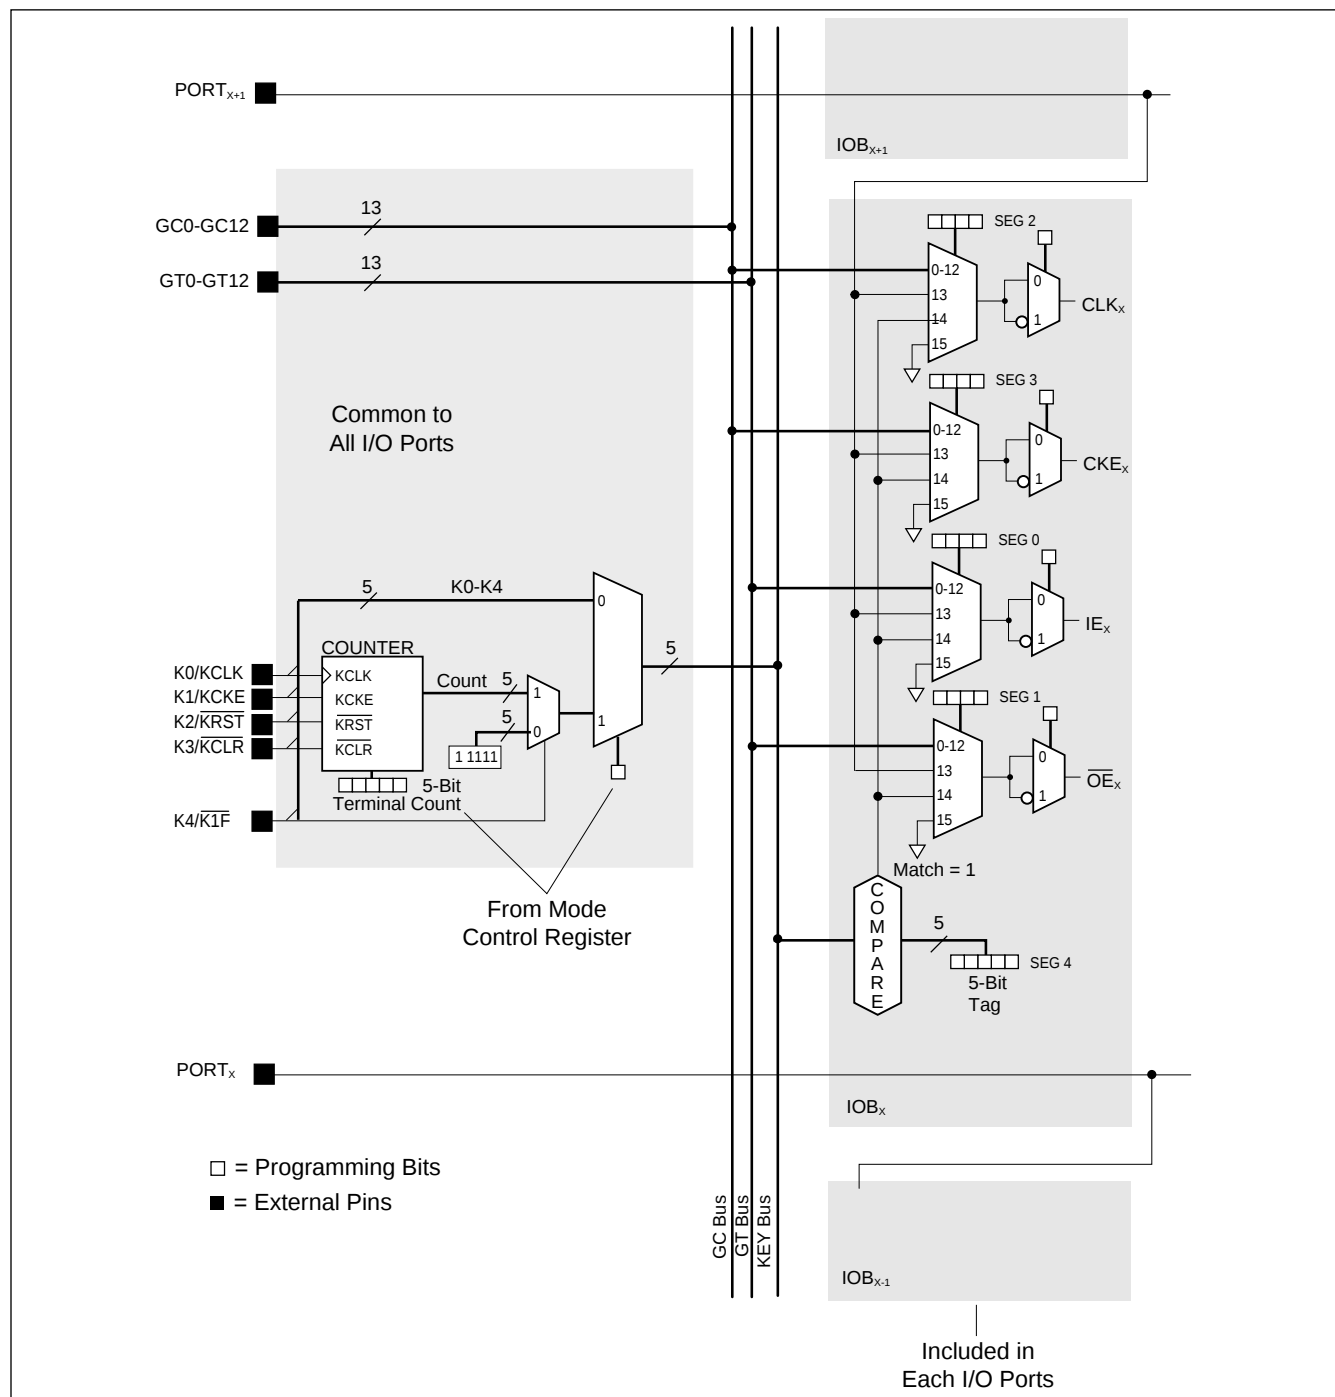

Figure 6. I/O Control
The IQX family has a structure that gives the user a lot of flexibility in controlling the behavior of each I/O Port. As shown in Figure 6 and described below, Clock (CLK), Clock Enable (CKE), Input Enable (IE) and Output Enable ($\overline{OE}$) signals for each I/O Port can be selected from multiple sources. The control polarity can also be individually selected.
The Key Control feature on the IQX devices allows the user to encode mutually exclusive control signals for use as I/O control signals. The Key pins, K0 through K4 are shared with I/O Ports. This feature, shown schematically in Figure 6, works as follows:
When the device is reset all I/O Ports are set to the default configuration of flow-through input (IN). This is achieved by setting the 16-to-1 muxes shown in Figure 6, to select input 15 (V_{SS}); while the 2-to-1 muxes used for polarity selections are set to select non-inverted value for Clock (CLK) and Clock Enable (CKE), and inverted value for Input Enable (IE) and Output Enable ($\overline{OE}$).
1.4 RapidConfigure (RC) Interface